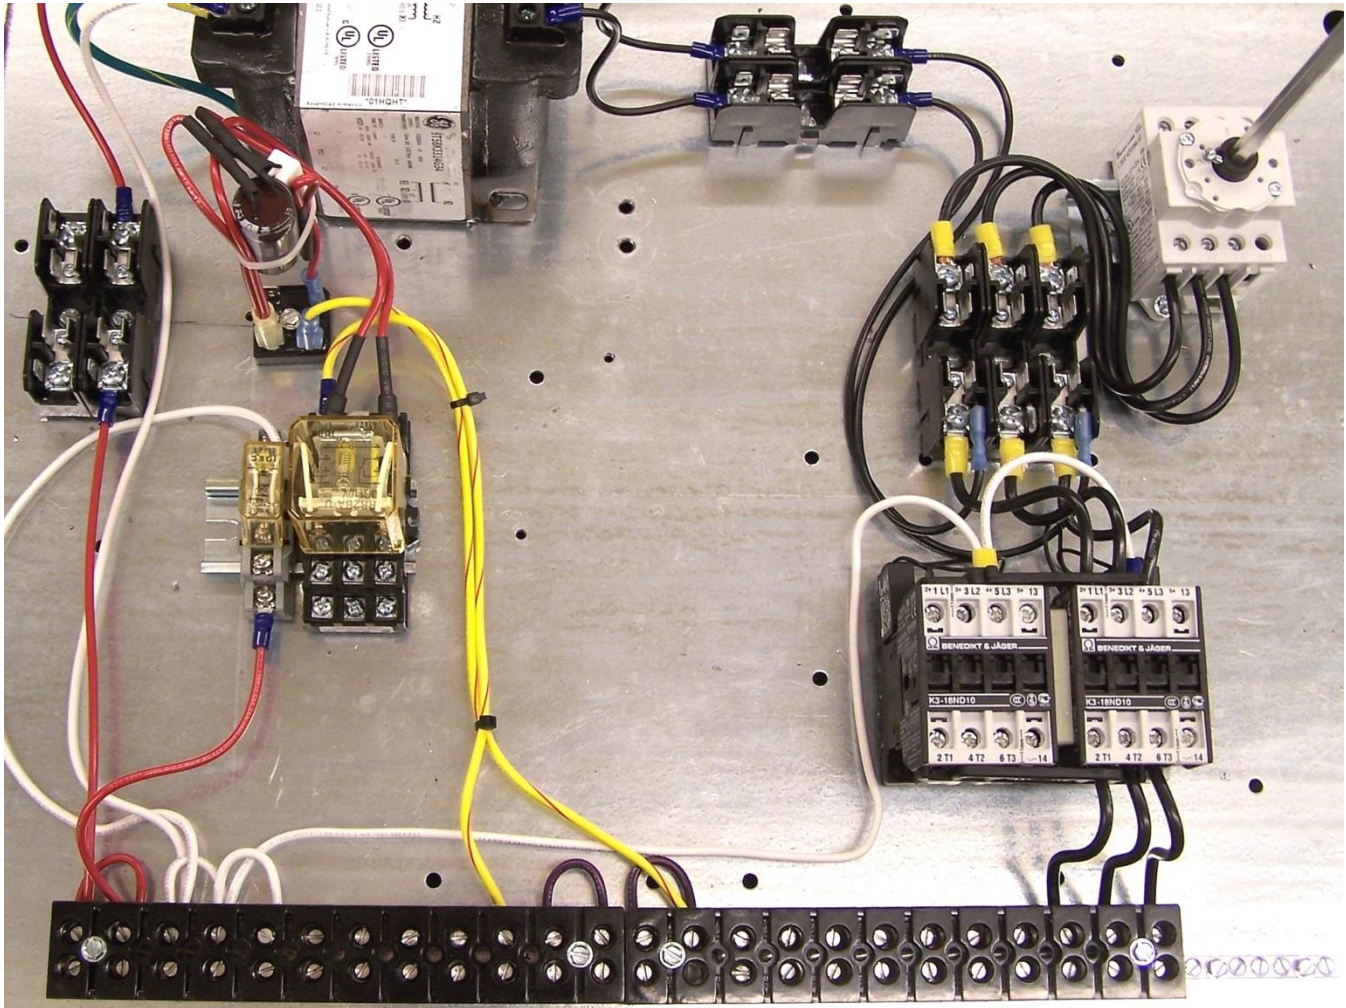

Figure 2
5. Remove the screws from the din rail and shifted to the left as shown in Figure 2. Use the supplied drill bit to create new holes to mount the din rail.
6. Remove the bridge rectifier and shifted to the left as shown in Figure 2. Again use the supplied drill bit to create the new mounting hole.